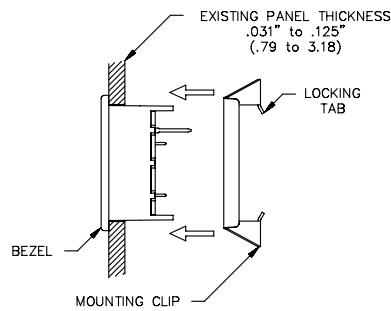

Figure 1
- Install MDMU through the panel cutout as shown in Figure 1.